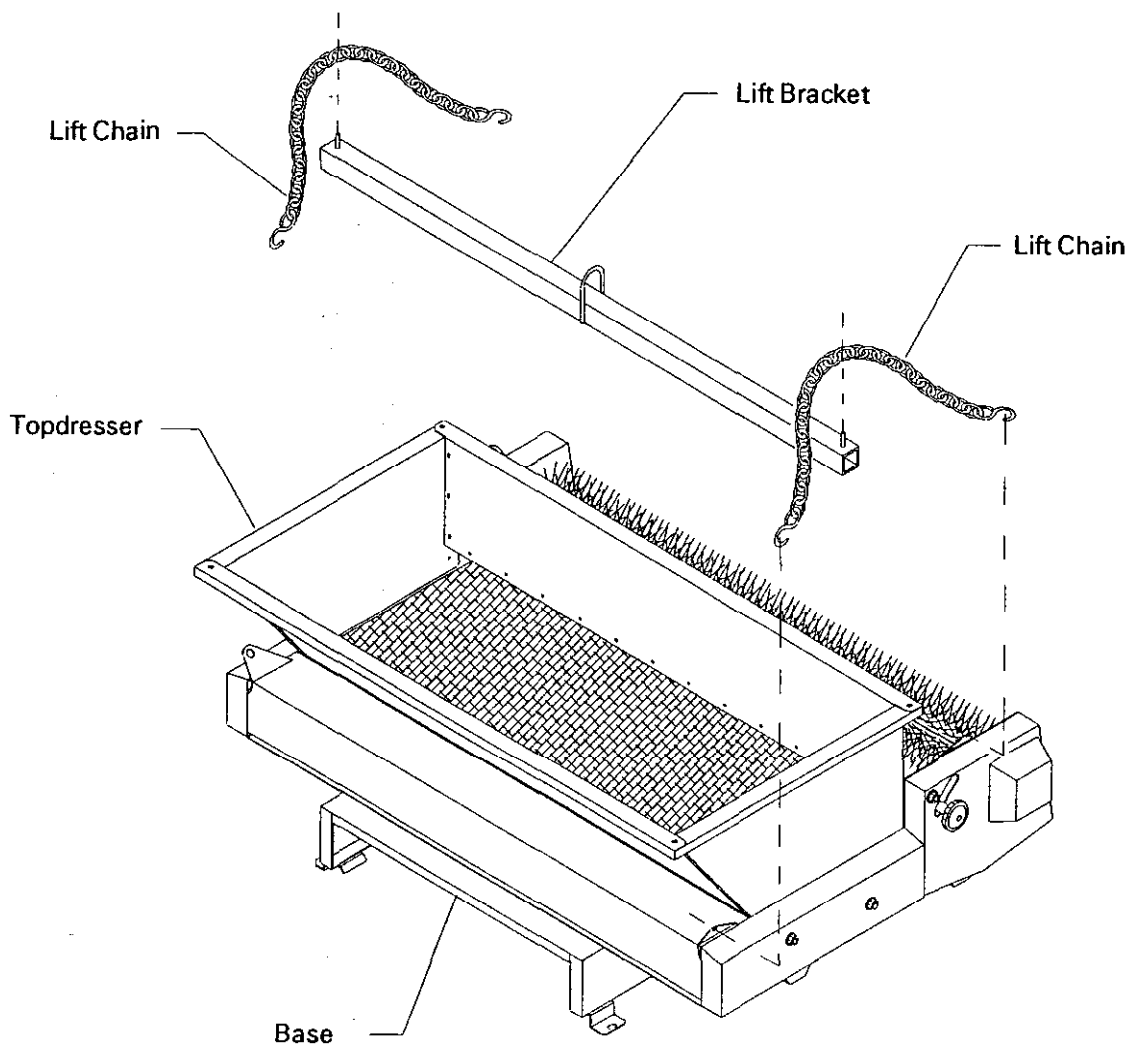

Figure 4
INSTALL OPTIONAL LIFT ASSEMBLY (Fig. 4)
2. Attach the chains as shown in Fig. 4.